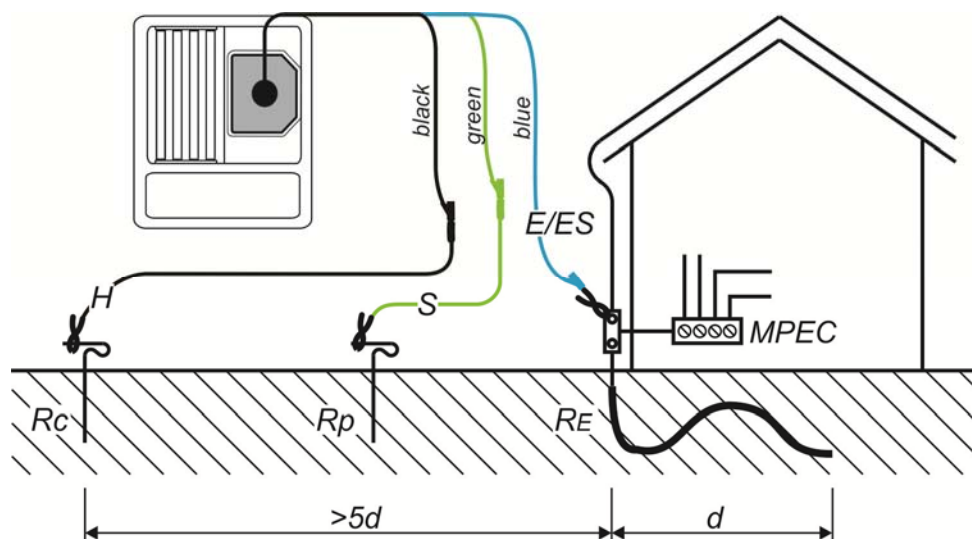

Figure 5.33: Resistance to earth, measurement of main installation earthing
- ❑ **Connect** the item to be tested (see *Figure 5.33* and *Figure 5.34*).